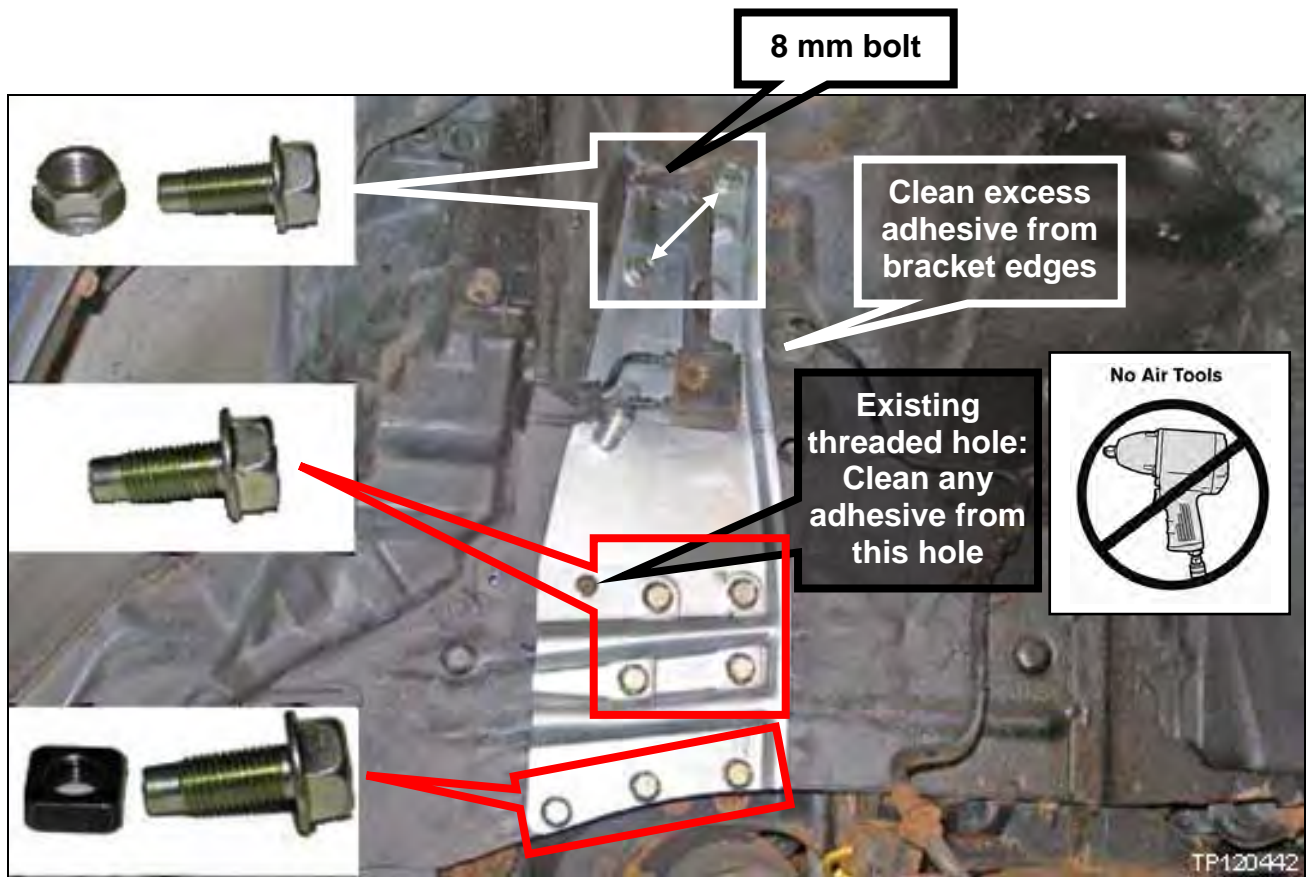

Figure RB26 – Passenger side
- Passenger side, see next page, Figure RB26.